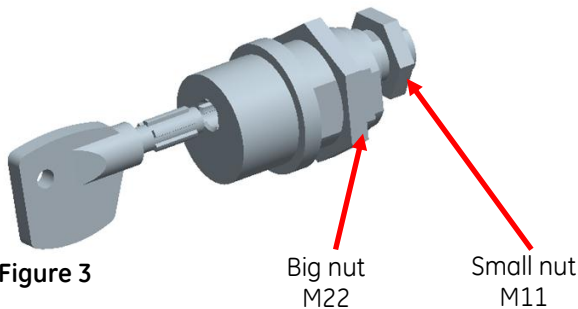

Figure 3
- Remove both nuts (small-M11 and big-M22) from the lock (Fig. 3.).